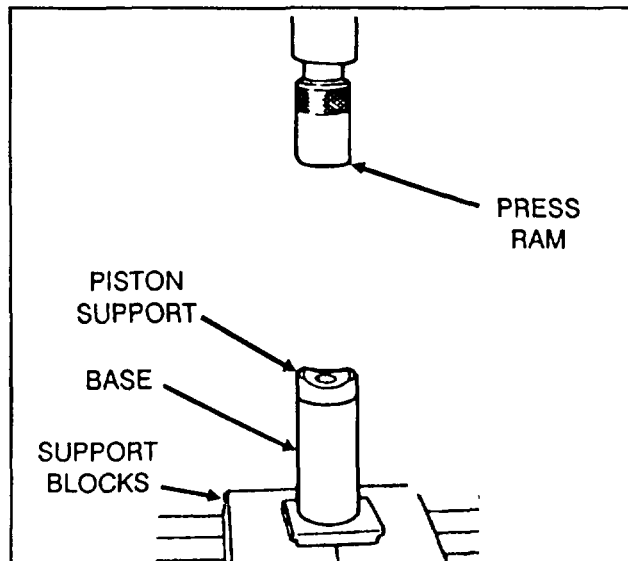

Figure 2
2. Refer to the application chart on Page 4, and select the correct piston support for your application. Fit the piston support onto the base. Place the base onto press support blocks. See Figure 2.